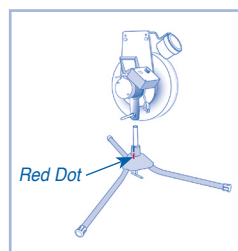

Figure 10
- Place the “top” of JUGS onto the shaft of the base assembly. (see Figure 10).